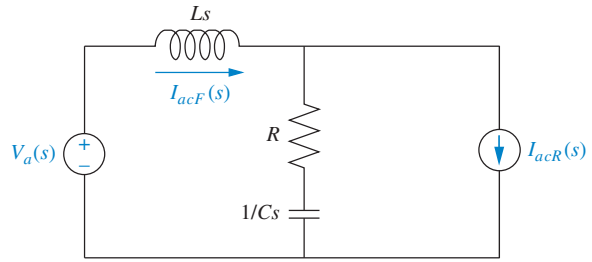

FIGURE P2.38 AC filter equivalent circuit for a three-phase ac/dc converter
64. A three-phase ac/dc converter supplies dc to a battery charging system or dc motor (Graovac, 2001). Each phase has an ac filter represented by the equivalent circuit in Figure P2.38.